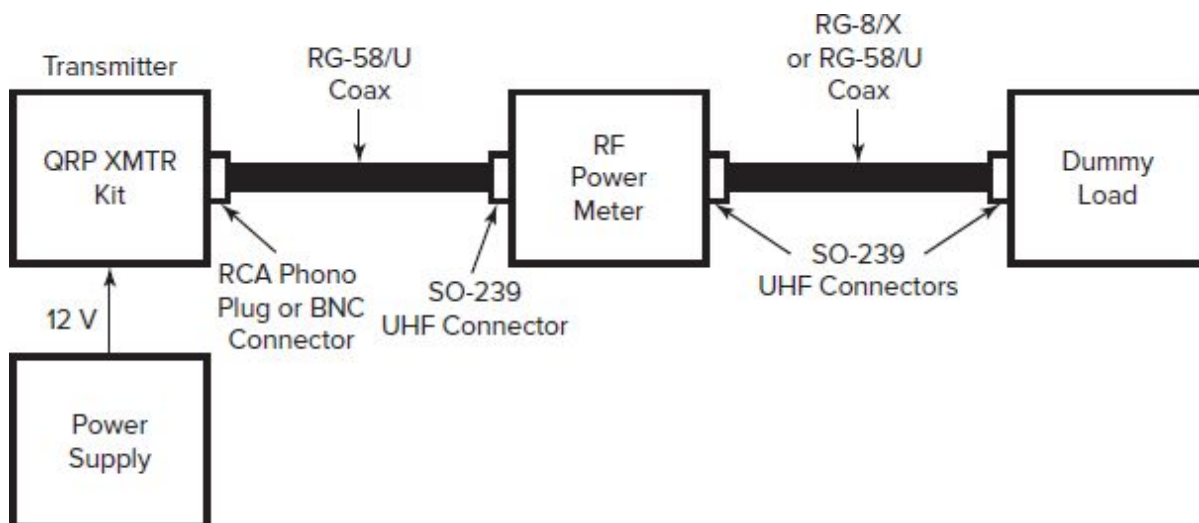

Fig. 8-5 Test setup for transmitter power measurement.
8. To verify the output power, connect an oscilloscope across the 50-Ω load and measure the voltage. The circuit should be connected like the diagram in Fig. 8-5.